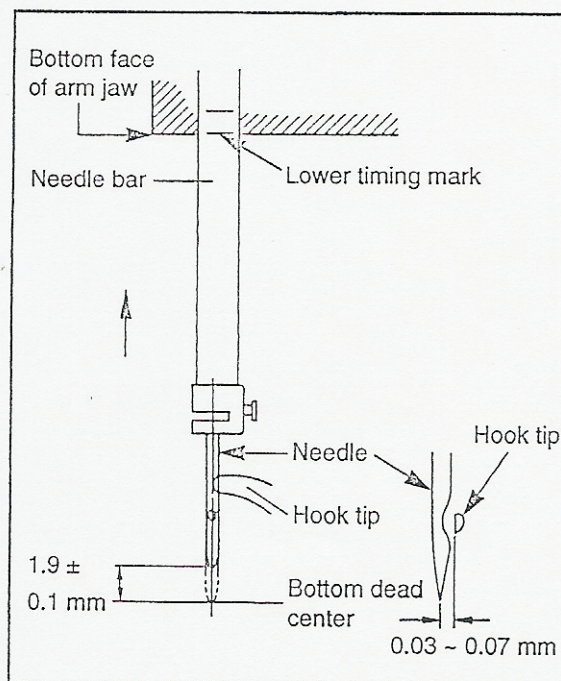

FIG. 2
- (4) Rotate the hand wheel forward again to raise the needle bar. The hook tip must be aligned with the needle center when the lower timing mark is aligned with the bottom face of arm jaw or when the needle bar is 1.9 ± 1 mm above the bottom dead center (Fig. 2).
- (5) The clearance between the needle and the hook tip must be $0.03 \sim 0.07$ mm (Fig. 2).
- (2) Rotate the hand wheel forward so that the needle bar is set to the bottom dead center. Rotate the hand wheel again to align the lower timing mark with the bottom face of the arm jaw (Fig. 2).
- (3) Loosen retaining screw (a) further and rotate the rotary hook in either direction A or B. Align the hook tip with the needle center (Fig. 2) and secure a clearance of $0.03 \sim 0.07$ mm between the needle and hook tip (Fig. 4 on page 27).
- (5) Rotate the hand wheel forward so that the lower timing mark is aligned with the bottom face of the arm jaw. Check the position of the needle and hook tip (Fig. 2 on page 26).
(fig. 2)